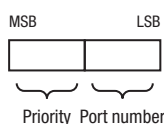

Figure 31: Port Identifier
- ▶ When multiple paths with the same root path costs lead from one bridge to the same bridge, the bridge further away from the root uses the port identifier of the other bridge as the last criterion (see figure 31). In the process, the bridge blocks the port that leads to the port with the numerically higher ID (a numerically higher ID is the logically worse one). When 2 ports have the same priority, the port with the higher port number has the numerically higher ID, which is logically the worse one.